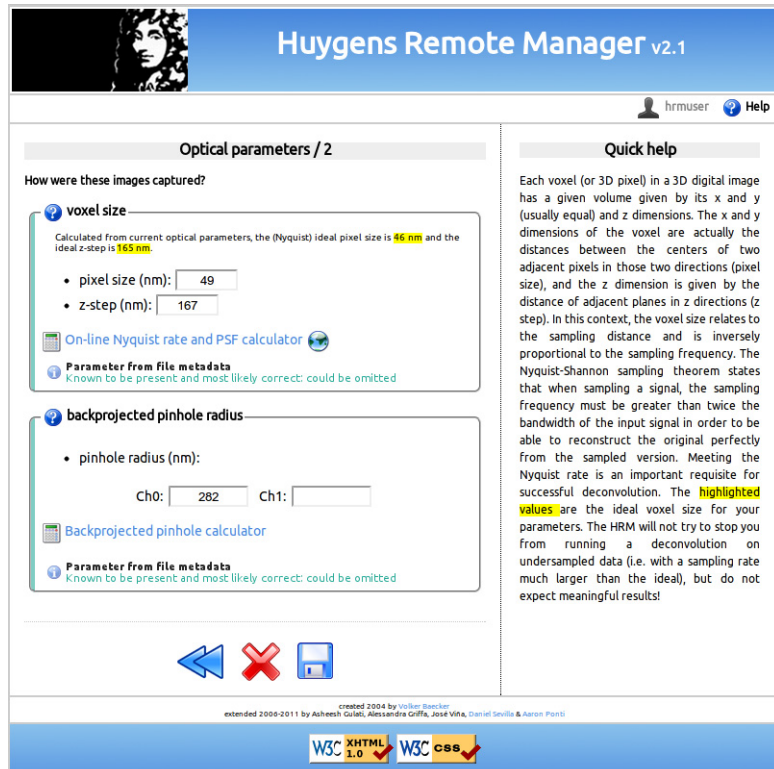

FIGURE 2.7. Image Parameter Settings. Voxel size and backprojected pinhole radius for confocal and multiphoton microscopy.
- *Backprojected pinhole radius, confocal and 2-photon microscopy:* In confocal images the “backprojected pinhole radius” is the radius of the pinhole as it would be seen on the focal plane. This number can be calculated in HRM by clicking on the “Backprojected pinhole calculator” link. The calculator will ask for the objective magnification and the actual pinhole radius for the computation of the backprojected radius (See Figure 2.7).